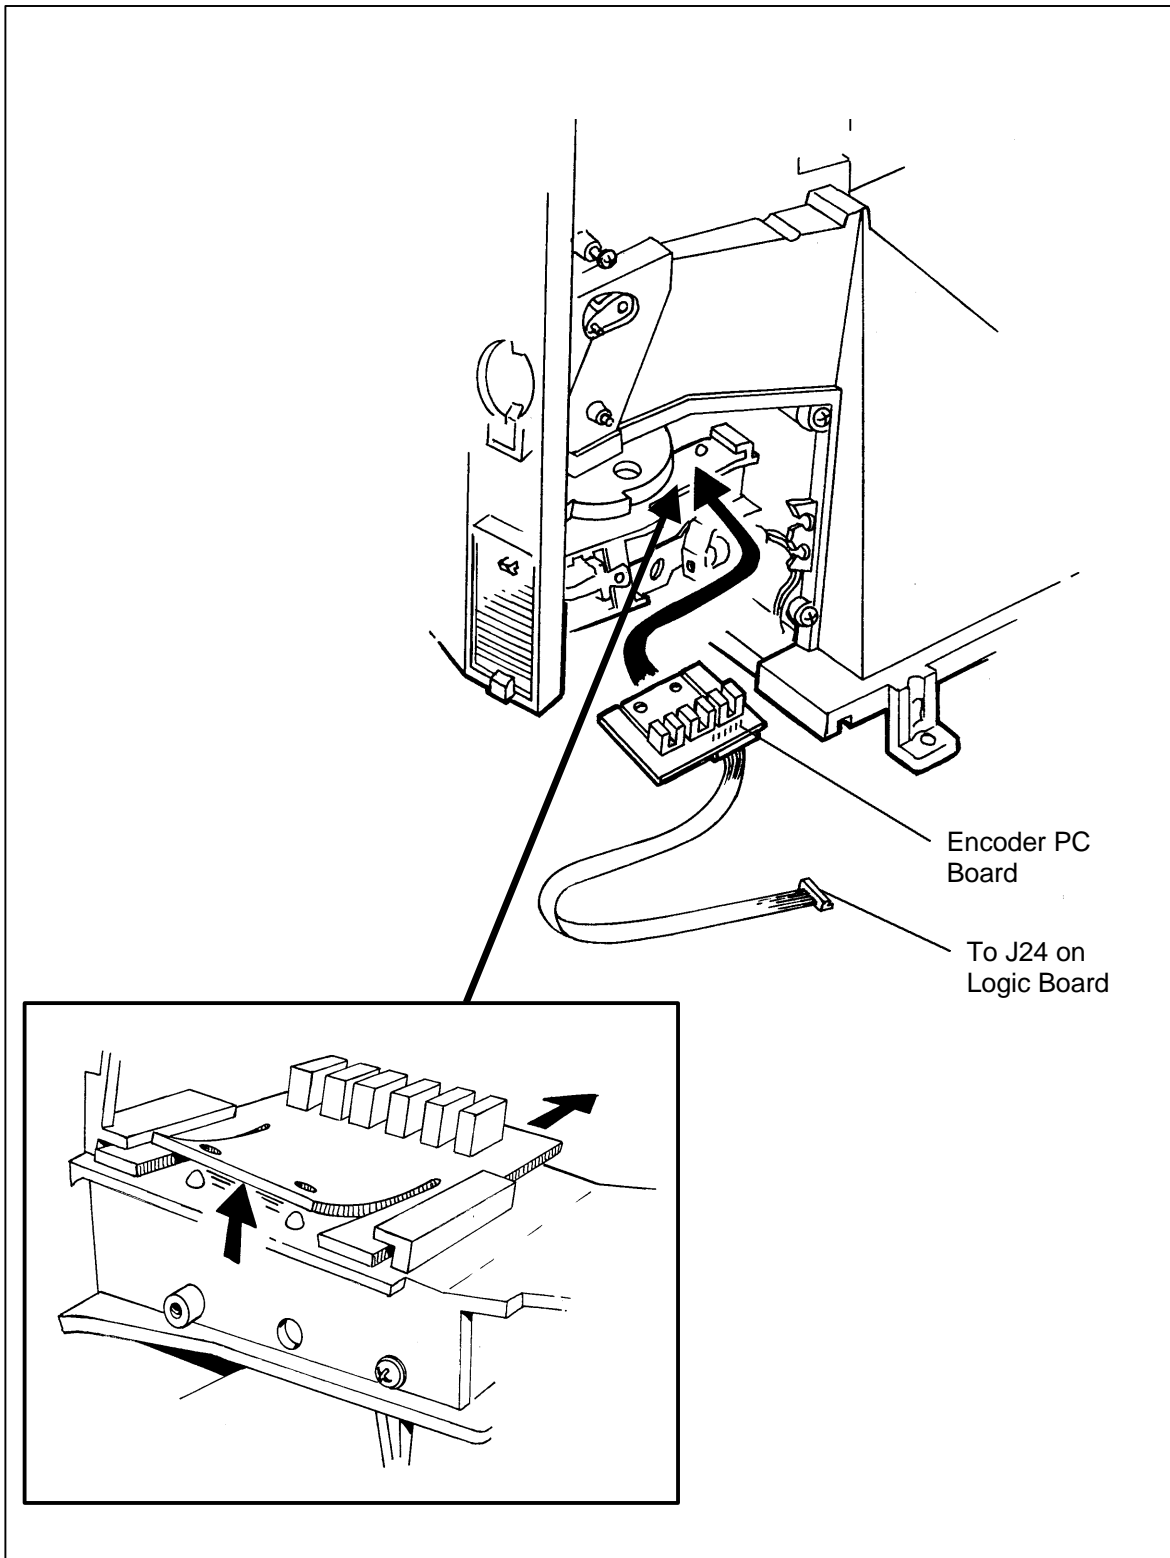

Figure 5-12a Encoder PC Board
- h. Using a small flat screwdriver, gently pry up the front end of the encoder PC board to release it from its support pins and then slide it out from its support rails (Figure 5-12a).